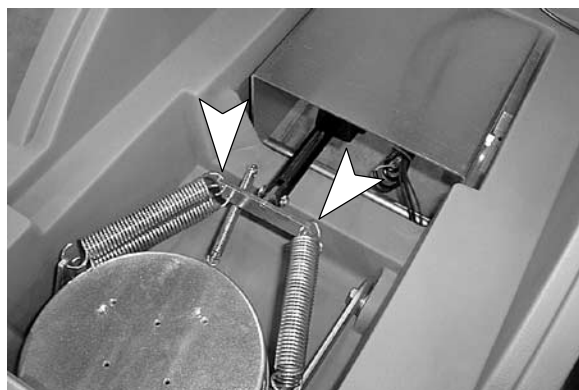

FIG. 1
3. Remove springs from spring bracket on actuator (Figure 1).